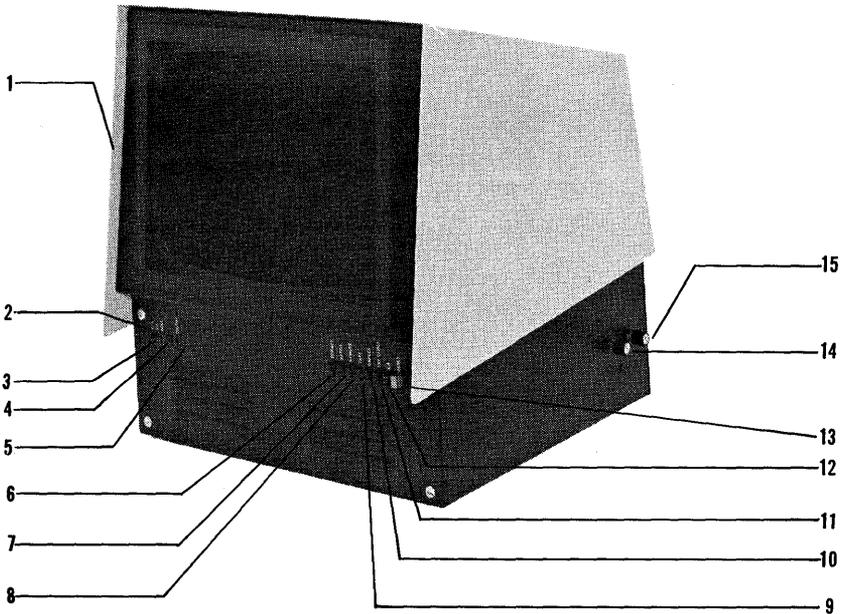

Figure 3-1
3. Operate POWER switch (item 1, in Section III B, Figure 3-1) to the ON position, and allow a two minute warm up period.
4. Look for the cursor; if not visible, adjust BRIGHTNESS and CONTRAST controls (items 14 and 15 in Figure 3-1) in the following manner:
1. Secure test configuration by setting the six switches, shown in Figure 3-1 (page 3-1) as Items 6 through 11, to the out position, and Item 12 (EIA) to the in position. Then depress the RESET switch (Item 13).
1. Inspect AC input: Insure that the AC plug is firmly seated in the AC receptacle, and that the power switch (item 1 in Figure 3-1) is in the On-position.
There are eight single action type switches and four LED's (Light Emitting Diodes) on the front of the VDU (Video Display Unit). In addition to these there are two control knobs on the right side of the VDU and a power switch on the left side. The items described in this sub-section are arranged according to numerical sequence as they appear in Figure 3-1.